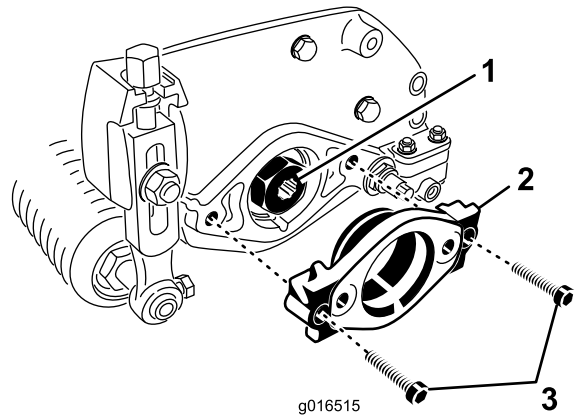

Figure 8
2. Remove the (2) Allen head screws securing the motor mount to the left end of the cutting unit. Remove the motor mount (Figure 8).
3. Apply grease to the inside diameter of the drive spline (Figure 8).